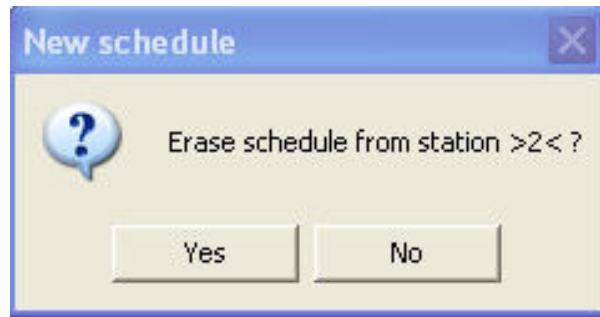

Figure 12-26
9. You should now see two buttons below the entry – “Cancel” and “Erase”. Click on “Erase”. At this point a new window like the one shown in Figure 12-26 will appear. Click on “Yes” then click on “OK” in the bottom right hand corner of the “Train schedules” window.